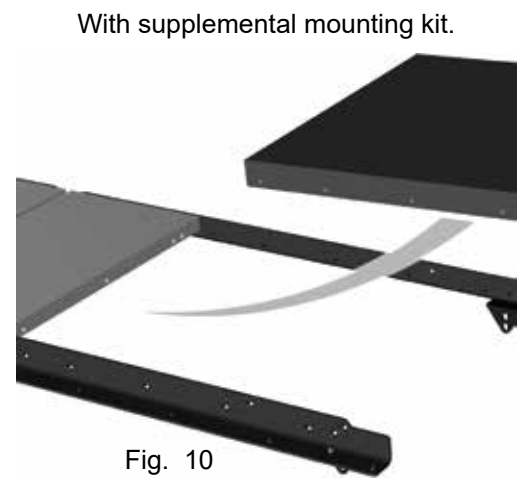
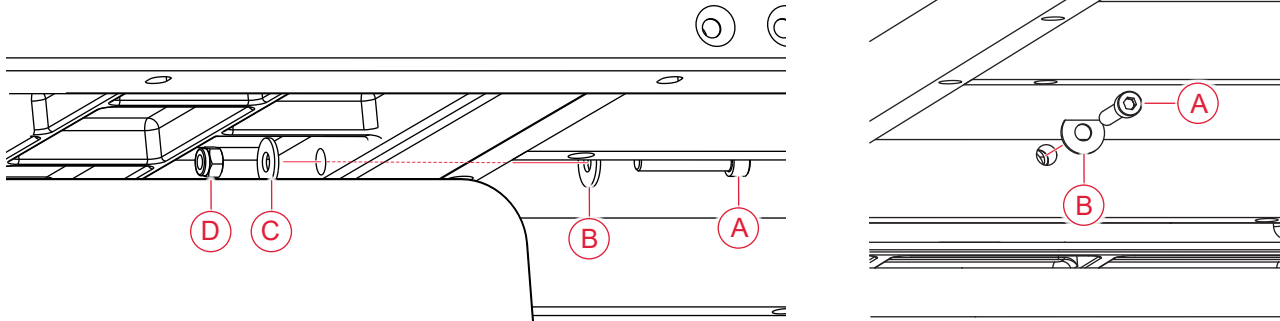

Fig. 10
Fig. 11
**Supplemental Mounting Kit.** (If your extension table uses the adjustment bracket, you can skip this section.) The supplemental mounting kit is included in the hardware bag. The extension table contains a through-hole in the center of the left side of the frame that aligns with a matching hole in the center of the edge of the right extension wing. Place the extension table between the rails (Fig. 10). Install the M8 x 45 socket head bolt (A) and D-washer (B) through the hole in the extension table. (Fig. 11) The bolt should extend through the hole in the extension wing. Make sure the flat edge of the D-washer faces upward. Install an M8 x 23 x 2 washer (C), and an M8 x 1.25 hex nut (D) on the end of the bolt and hand-tighten, do not completely tighten at this time.